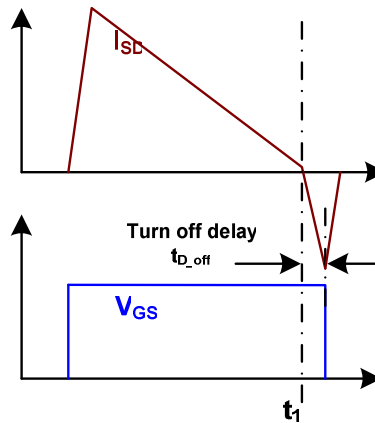

Figure 25 — CrCM Turn off of MP6902 in Flyback Converter
But when the Flyback system operates in CrCM, in which condition I_f in (20) is nearly zero, the reverse current (I_{rr}) lead by shoot through will easily occurred, see figure 25:
1. Steady state: 170VAC (240V DC) input, full load condition. (~100A/us di/dt according to figure 25)
2. System start up: 265VAC (380V DC) input, full load condition. (~150A/us di/dt according to figure 25)